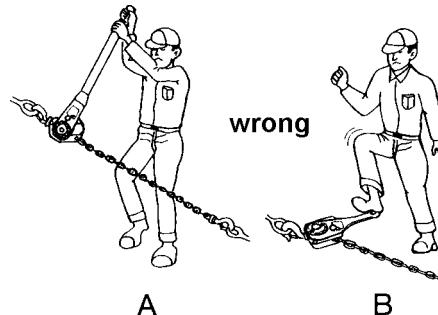

Fig. 6
- Do not** use an extension on the lever (A, Fig. 6). **Do not** use a foot to apply pressure to the lever (B, Fig. 6).